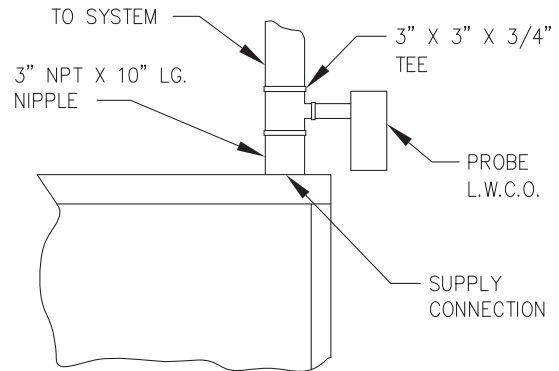

Figure 6.8: Probe Low Water Cut-off Piping
- b. If a probe-type low water cut-off is used it should be piped into the boiler supply piping as shown in Figure 6.8.